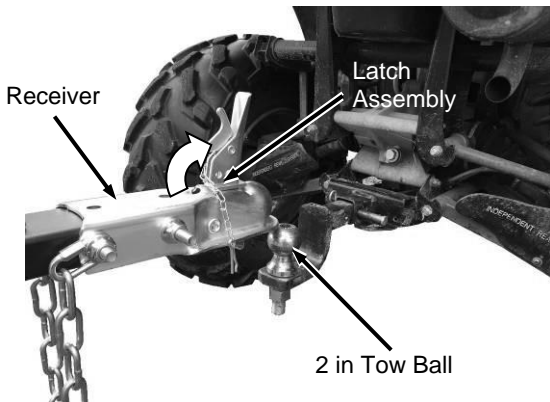

Figure 29
1. Remove the Locking Pin and Pull the Latch assembly on the Receiver up into the open position (**Figure 29**). Position the Receiver onto the tow vehicle's Tow Ball (must be a 2 in Tow Ball).